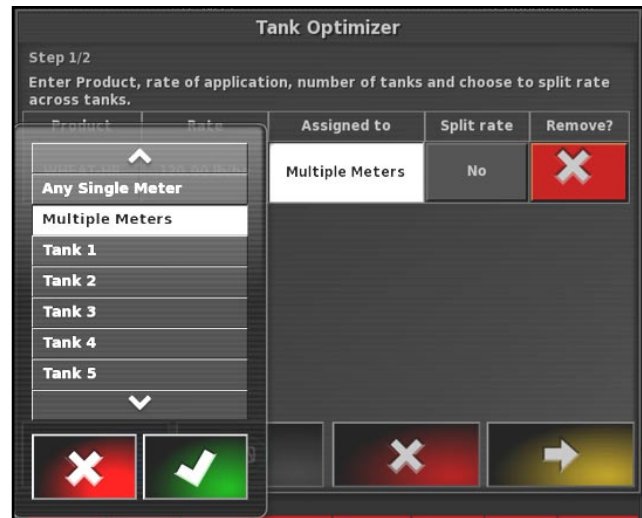

Figure 8.13 - Assigning Tank(s)
4. Refer to *Figure 8.13*. Assign tanks for this product.